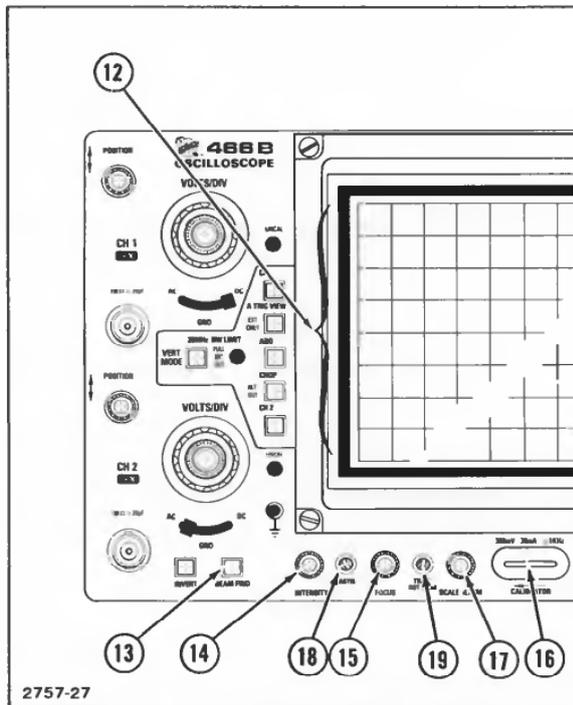

Figure 2-4. Display controls and calibrator.
Refer to Figure 2-4 for location of items 12 through 19.
- ⑫ **Internal Graticule**—Eliminates parallax. Risetime and amplitude measurement points are indicated at the left edge of the graticule.
- ⑬ **BEAM FIND Switch**—Compresses the display to within the graticule area and provides a visible viewing intensity to aid in locating off-screen displays.
- ⑭ **INTENSITY Control**—Determines overall brightness of the A Sweep and B Sweep crt displays. Interacts with B INTENSITY control on B Sweep crt displays.
- ⑮ **FOCUS Control**—Adjusts for optimum display definition.